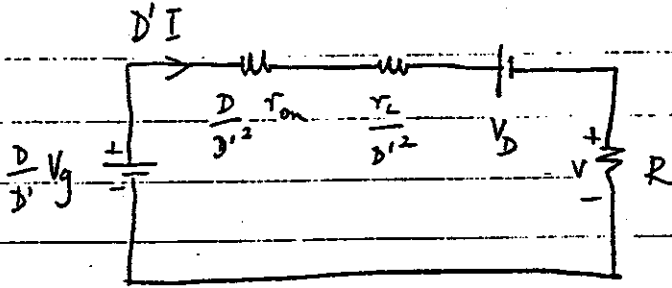

Fig. 2
To find  $r_L$  we write loop equation of Fig. 2
from fig 2  $= D'I = 1$
c) From Fig. 2 using voltage divider rule